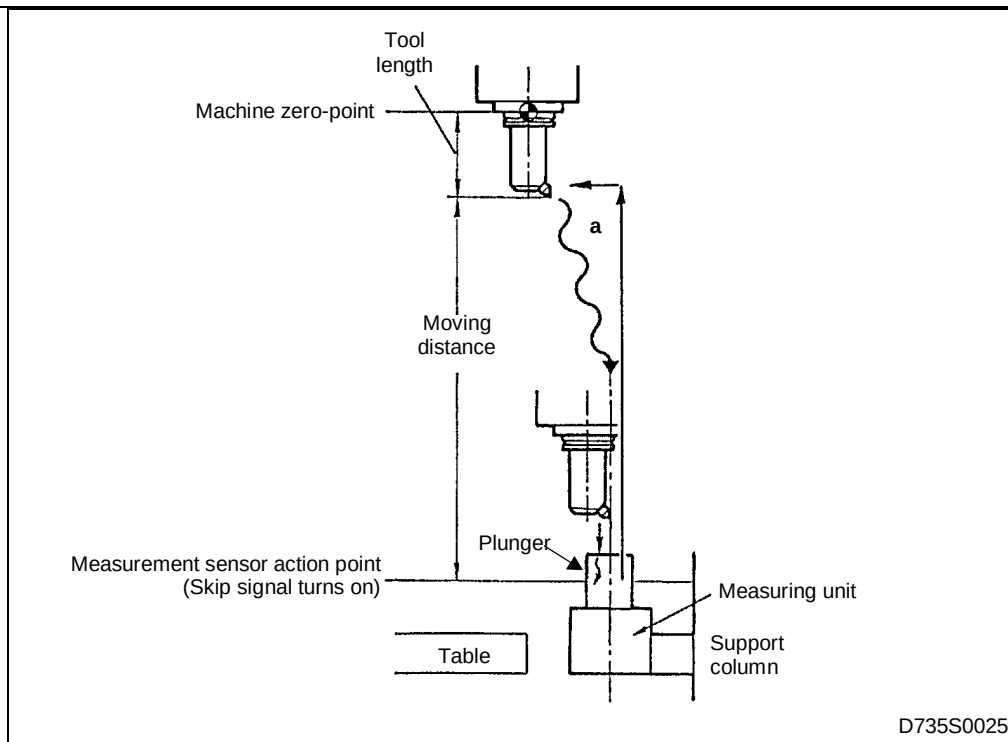

Fig. 1-2 Machine action in semi-automatic tool length measurement
- (1) Mount on the spindle the tool whose length is to be measured.
- Use procedural steps (1) through (5) of Item 3, "Tool change".
- (2) Move the measuring unit out of its storage position.
- (3) Call the **TOOL DATA** display on the screen.
- (4) Bring the tool tip close to the plunger of the measuring unit by manual operation. (Action **a** in Fig. 1-2)